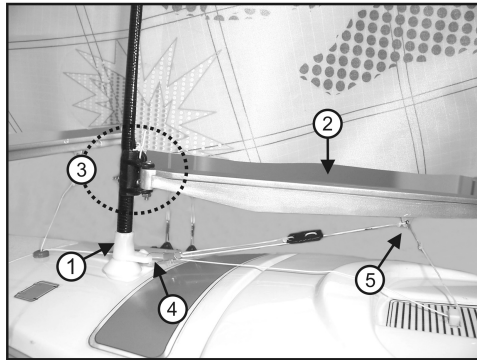

Figure 6
- Plug the mast on the upper deck into the mast holder hole as shown in figure 6, item 1.
- Attach the transverse beam (2) of the mainsail (called a „boom“ in sailing) to the mast with an M2 screw/nut (figure 6, item 3).
- To be able to control the angle of attack of the main-sail, the „boom“ must be connected to the control line of the sail winch as shown in figure 6, item 5.